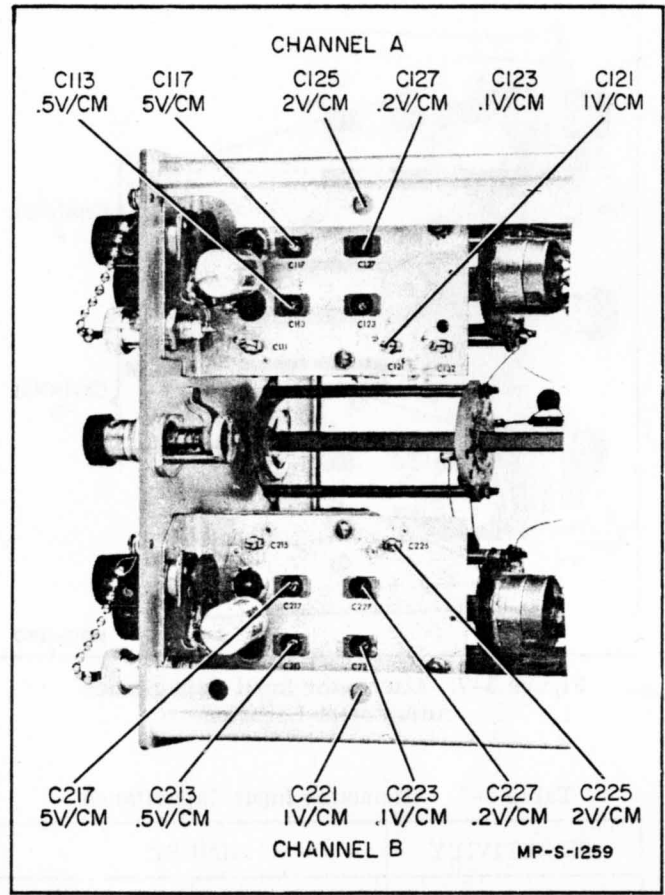

Figure 5-6. Attenuator Compensation Adjustment Location
d. Adjust capacitors as shown in table 5-6 for best square wave (figure 5-6).